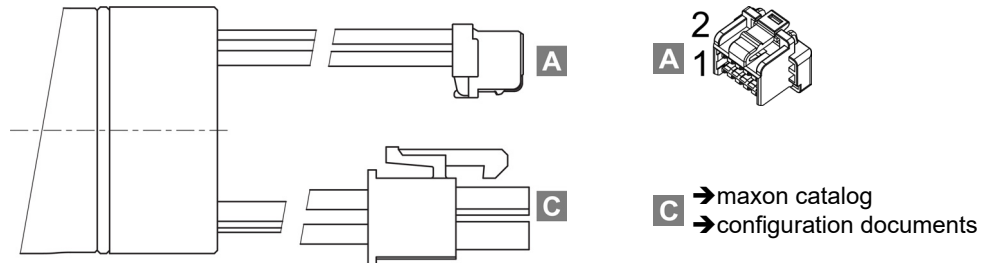

Figure 15 ENX 13...22 EASY INT Absolute – Cable Plugs
- Absolute encoder with plug / Motor with plug (→Figure 15)